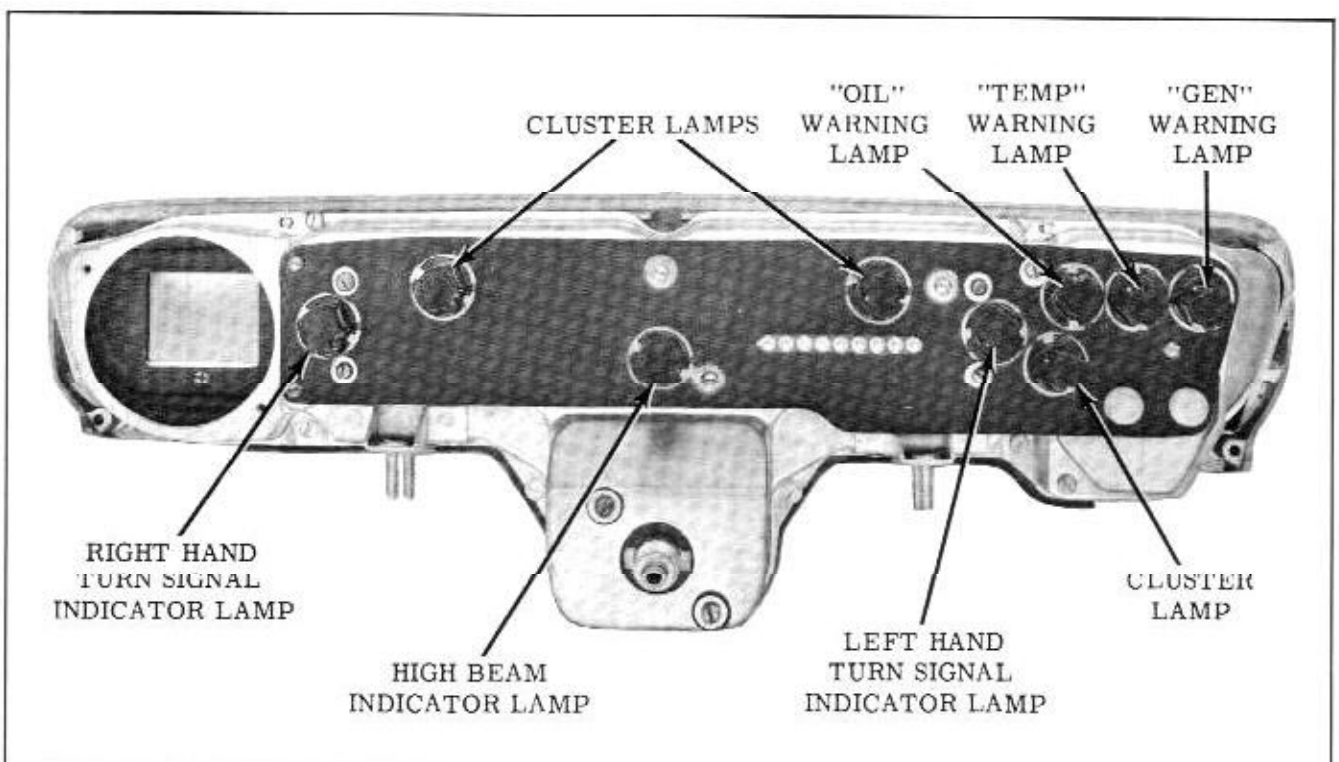

Fig. 13-100 Instrument Panel Lamps
2. The instrument panel lamps, except the clock and heater control lamp, are mounted on a printed circuit panel. Fig. 13-100 identifies the position of the indicator lamps and the cluster lighting lamps. These lamps may be removed by turning the socket counterclockwise (looking at the back of the instrument cluster), to disengage the locking lugs. The electric clock lamp socket and the heater control lamp socket are the push in type lamp sockets and they can be removed by simply pulling straight out from the back of the instrument panel.